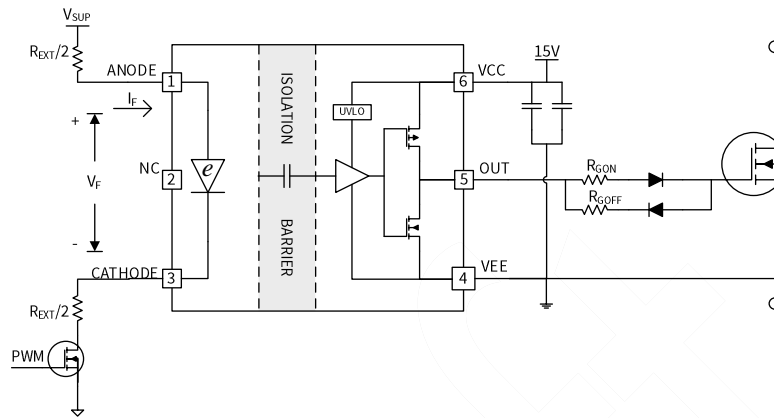
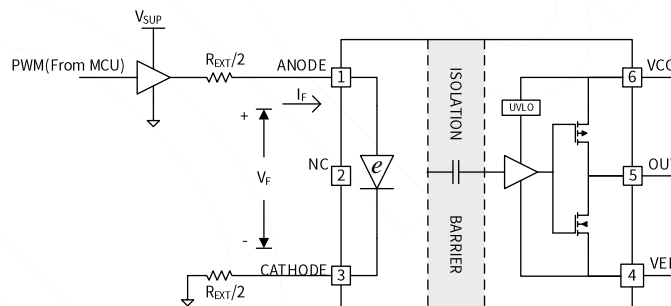
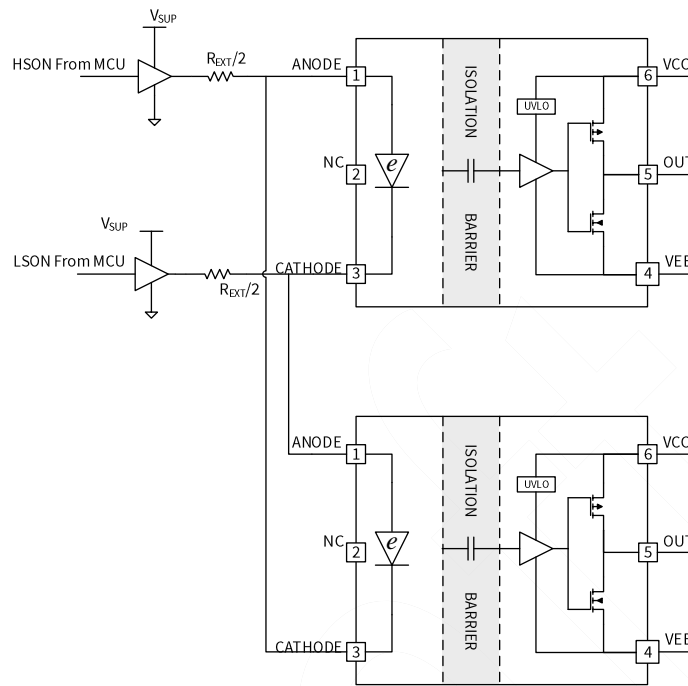

Figure 9.1 NSI6801x typical application circuit with NMOS driving input stage
Figure 9.2 NSI6801x typical application circuit with one buffer driving input stage
Figure 9.3 Interlock Protection using NSI6801x
NSI6801x requires 7mA to 16mA bias current that flows into the e-diode for normal operation. The PWM from MCU is not suitable to provide such current directly and external circuit is needed. In Figure 9.1, one NMOS is used with split input resistors. Another input drive method is using one buffer, as shown in Figure 9.2. The details to calculate input drive parameters are in Chapter 9.3.
For applications to drive power transistors in half bridge configuration, two NSI6801x can be used. Interlock protection is possible as shown in Figure 9.3. If the controller has some mistake, leading to negative dead time, the output PWM of NSI6801x is adjusted to avoid power transistor shoot through. The input side reverse breakdown voltage of NSI6801x is greater than 15V, which supports interlock protection of 3.3V or 5V PWM signal source.
The recommended forward current range for NSI6801 is 7mA to 16mA. The value of input resistor, buffer supply voltage and buffer internal resistance influence the forward current, as shown in Equation (1). In Figure 9.1, R_{IN1} is the on-resistance of the external NMOS. In Figure 9.2, R_{IN2} is the buffer output impedance in output “High” state. In Figure 9.3, R_{IN3} is the summary of buffer output impedance in “High” and “Low” state.